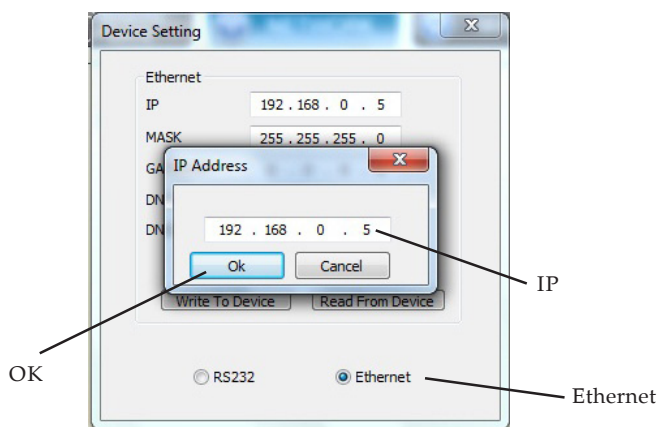

Figure 15
7. Select **Ethernet**, type in the IP, then click **OK**. See **Figure 15**.